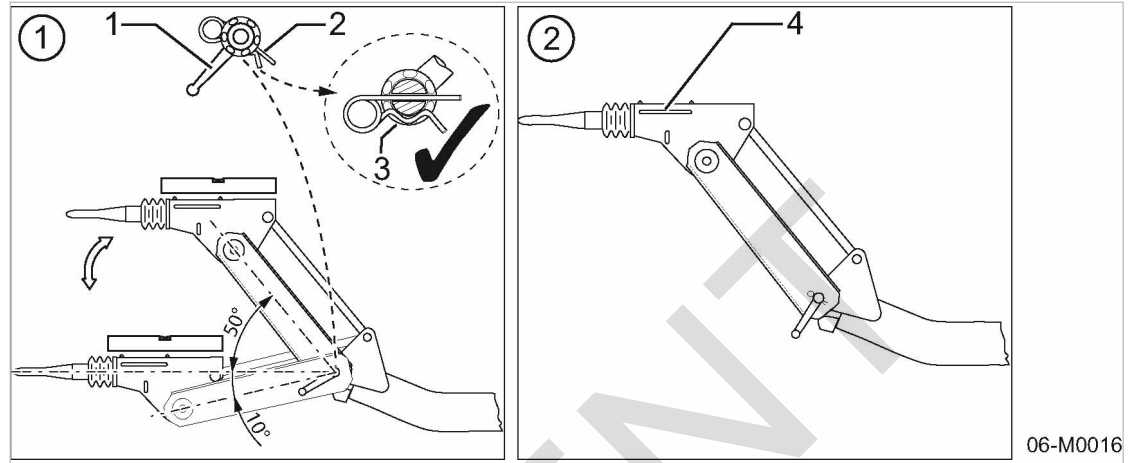

Fig. 23 Towbar height adjustment
The parallel tie bar ensures that the overrun braking mechanism stays horizontal (Fig. 23).
- The split pin is correctly inserted to secure the locking lever (see 3 in Fig. 23).